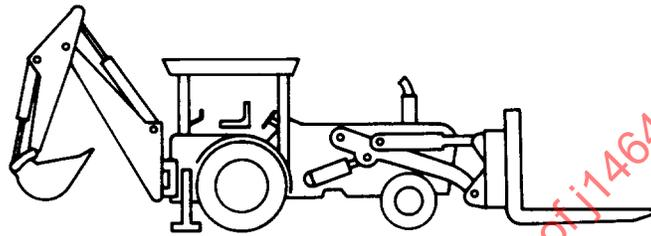

FIGURE 3—
- 4.1.3 Backhoe Loader with Fork Attachment (see Figure 3)